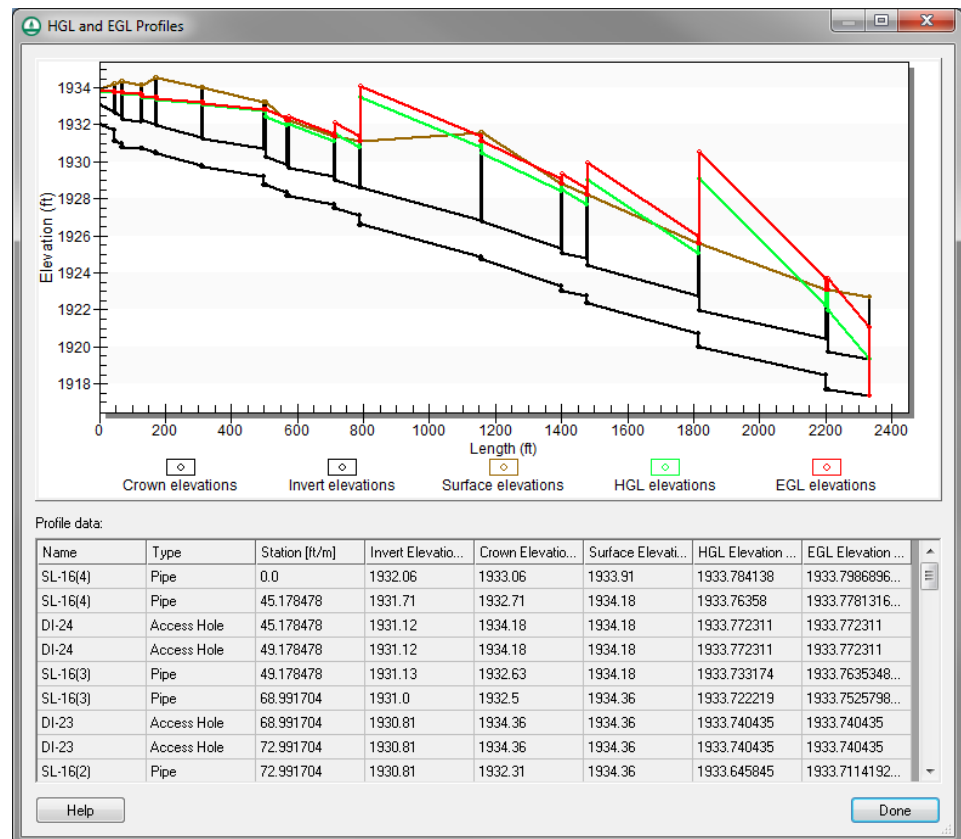

Figure 7 HGL and EGL Profiles dialog
3. Select *HY-12 / View EGL and HGL Plots...* to bring up the *HGL and EGL Profiles* dialog (Figure 7).